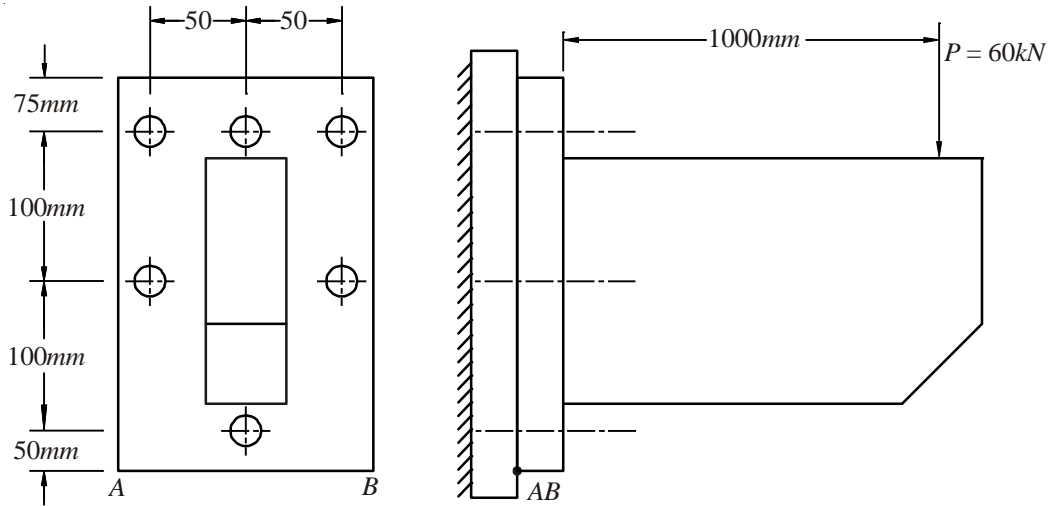

Figure-4.16
- 3) A bracket is bolted to a column by six bolts as shown in figure-4.16. Determine the standard size of bolts required if the permissible tensile stress in the bolt material is 90MPa.